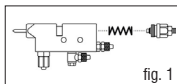

fig. 1
- 4) Unscrew the adjustment block with a wrench 13. Be careful because the spring is in thrust (see figure 1)